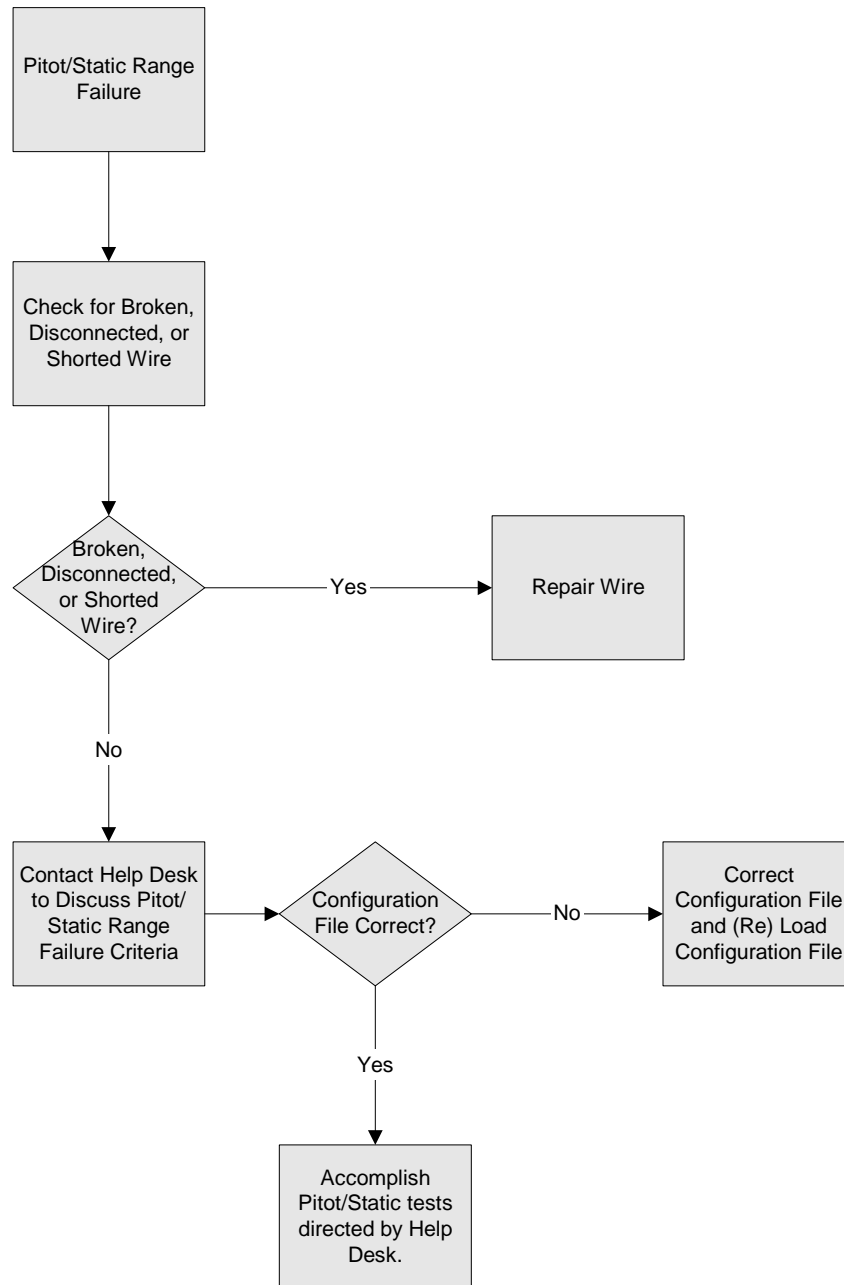

Figure 25: Pitot/Static Range Failure Troubleshooting
- a. Transducer Range Failure – Refer to Figure 25.